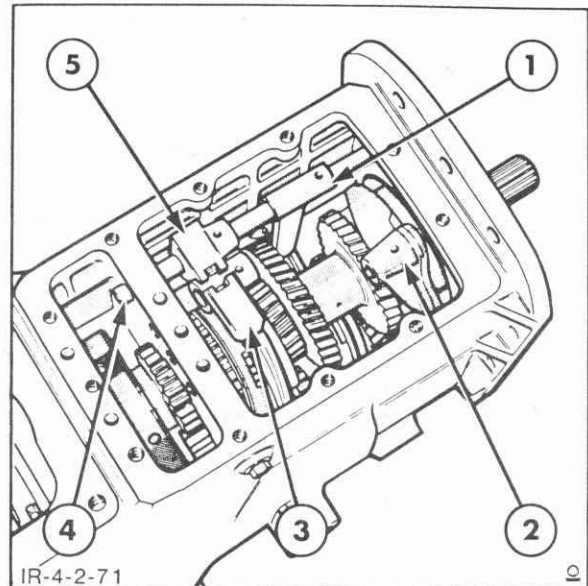

Figure 4-166
3. Install the 3rd/4th and H/L gearshift forks into the respective synchronizer assemblies, Figure 4-166.
5. Insert the 1st/2nd gearshift rail into the transmission case from the rear end of the transmission. Slide the rail through the 1st/2nd selector arm then install the 1st/2nd gearshift gate onto the rail. Continue sliding the rail until it is in approximately the neutral position, Figure 4-166.